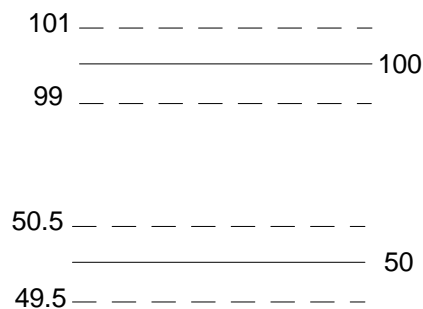

Figure 13: Hysteresis Bands and Trip Point Values
*Example:* Setting the trip point high value to 100, the trip point low value to 50, and the hysteresis entry to 1%, creates the hysteresis bands shown in Figure 13.